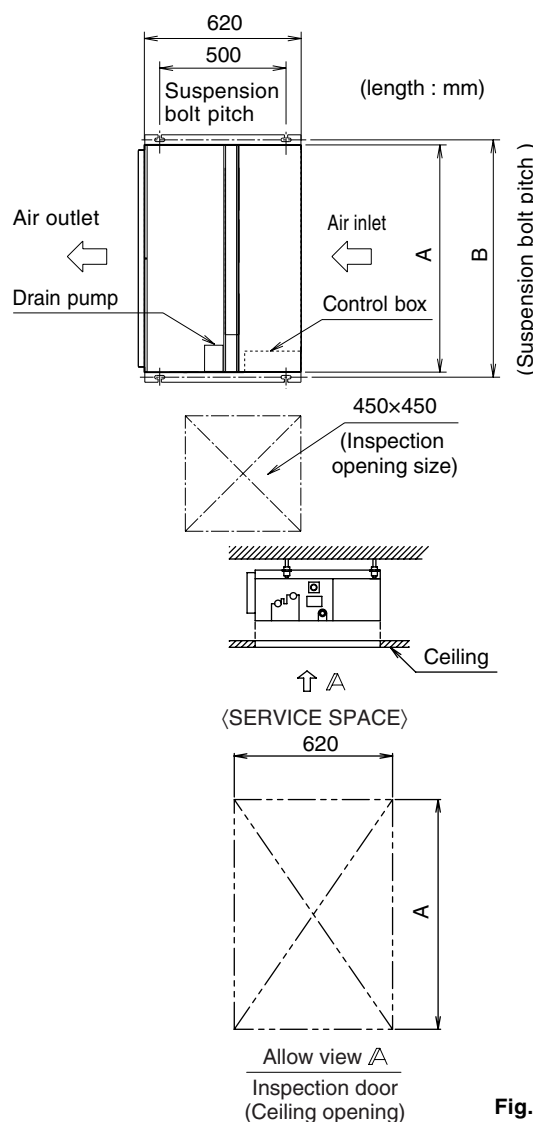

Fig. 2
#### (1) Confirm the positional relationship between the unit and suspension bolts. (Refer to Fig. 2)